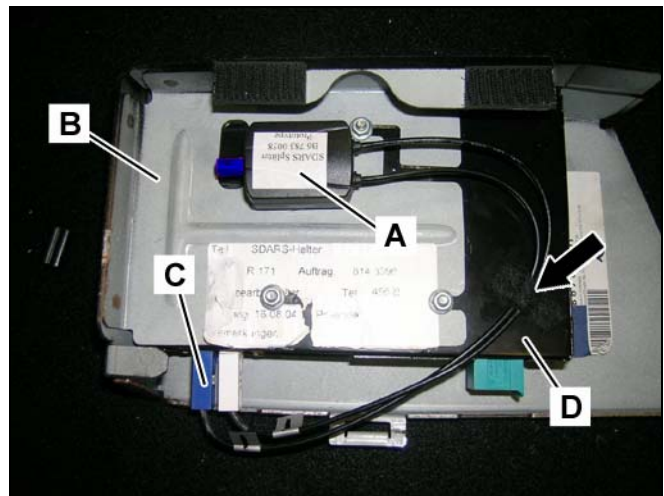

Figure 22
2. Peel off the protective backing from the adhesive side of the SDARS antenna splitter (A, Figure 22).
3. Affix the SDARS antenna splitter (A, Figure 22) to the surface of the SDARS bracket (B, Figure 22).
Note: Position the SDARS antenna splitter on the SDARS bracket as shown in Figure 22.
4. Connect the blue and white connectors of the SDARS antenna splitter (A, Figure 22) to the like-color jacks on the SDARS control module (C, Figure 22).
5. Secure the SDARS antenna splitter leads to the SDARS bracket (D, Figure 22) with felt tape (Arrow, Figure 22).